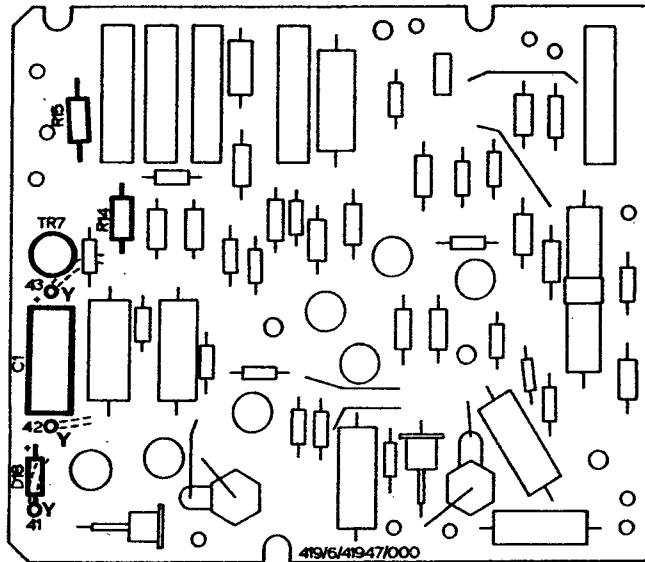

FIG 1
(4) Refer to Drawing Plessey / 2635 Fig 1. From Board A Part No 419/1/09599 unsolder and remove the following: